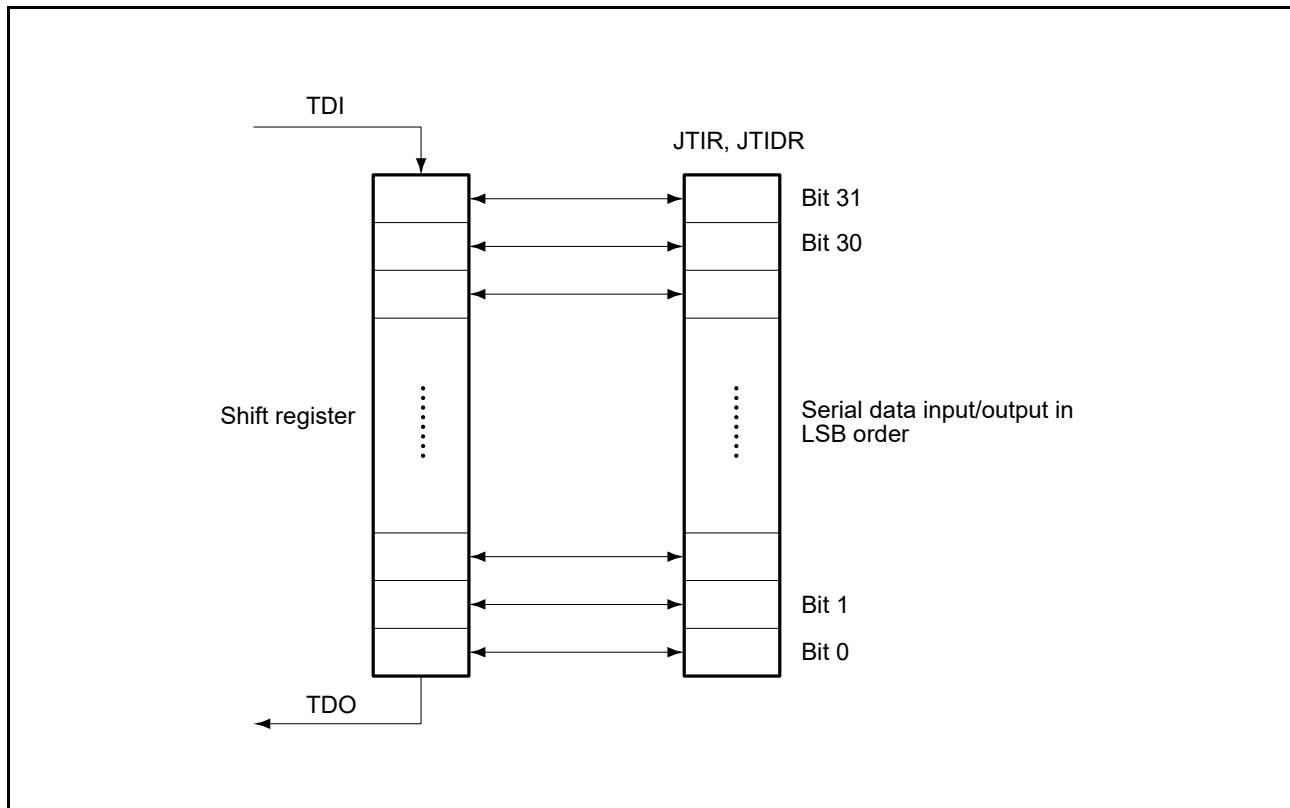

Figure 53.3 Serial Data Input/Output
- (1) Pin serial transfer, data are input or output in LSB order (refer to Figure 53.3).